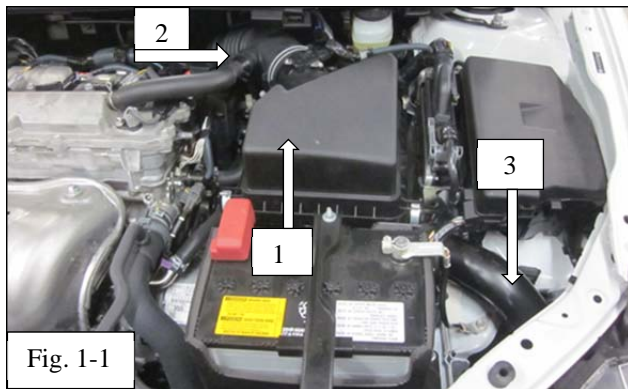

Fig. 1-1
- (c) Completely familiarize yourself with the installation and components before beginning (Fig. 1-1).